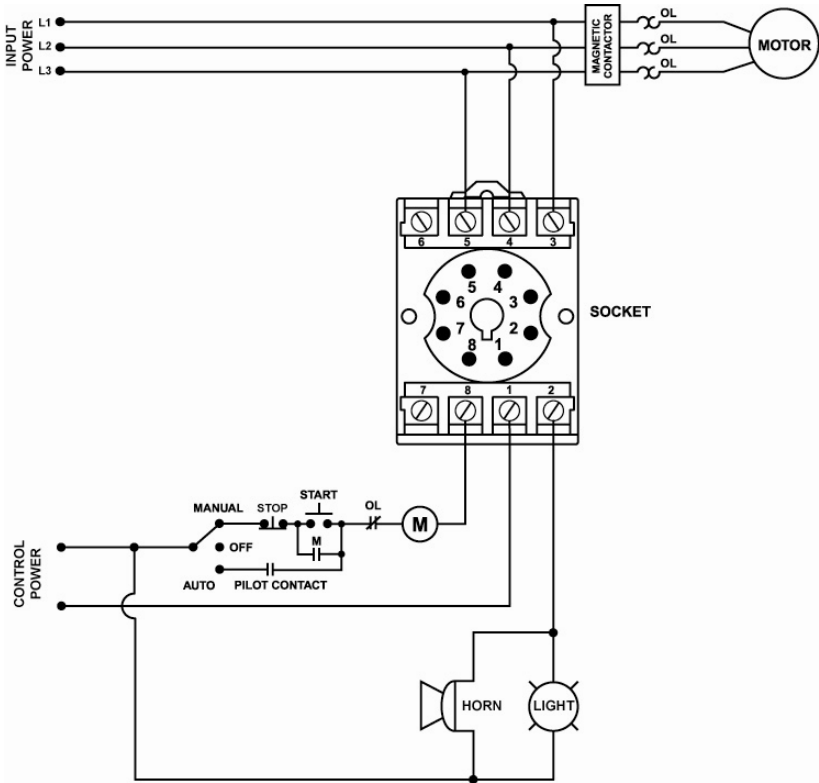

Figure 1: Typical Wiring Diagram for Control and Alarm
3. Connect L1, L2 and L3 (terminals 3, 4 & 5 on the relay socket) to the LINE SIDE of the motor starter as shown in Figure 1.
4. Connect the output relay to the circuitry to be controlled. For motor control, connect the normally open contact in series with the magnetic coil of the motor starter, and for alarm operation, connect the normally closed contact in series with the control circuit. See Figure 1 for details.